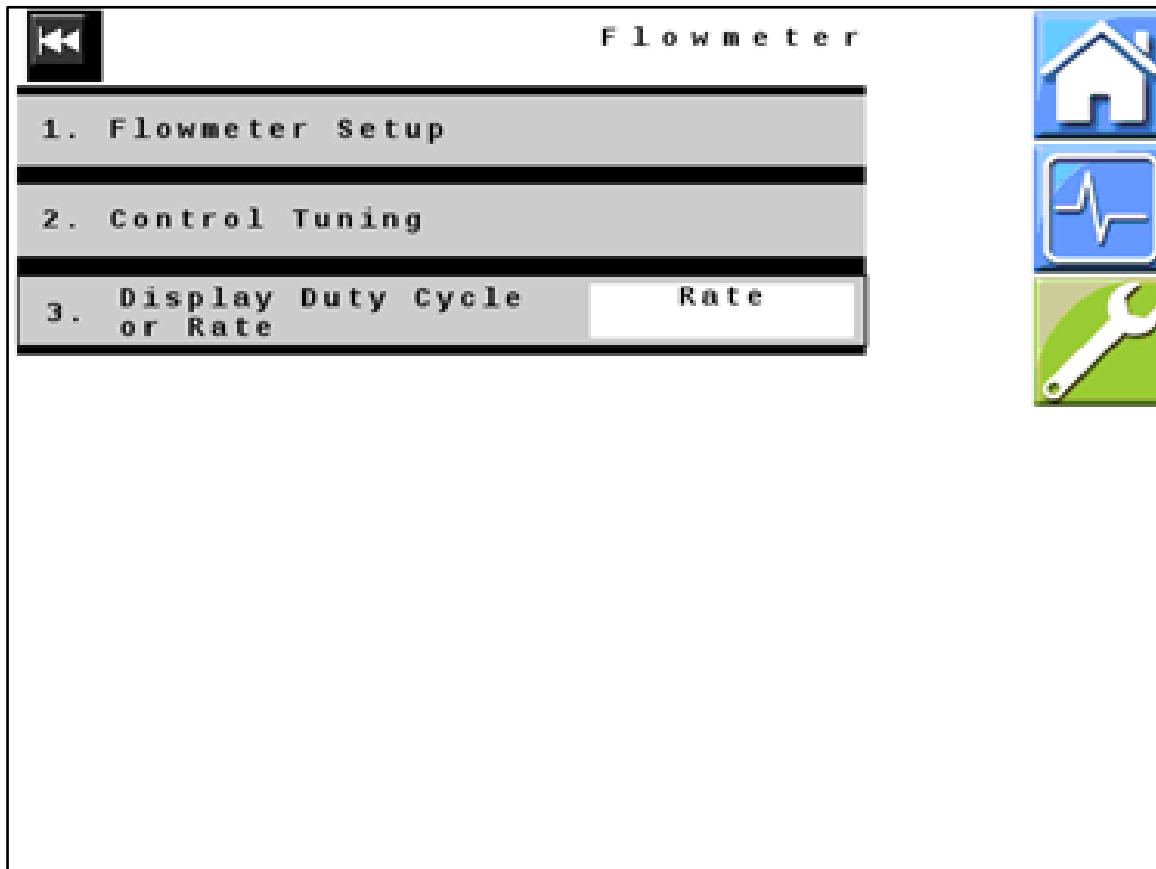

Figure 19 — Flowmeter
35. *Figure 19:* Verify that all values displayed on your unit match those shown here. Change values if necessary